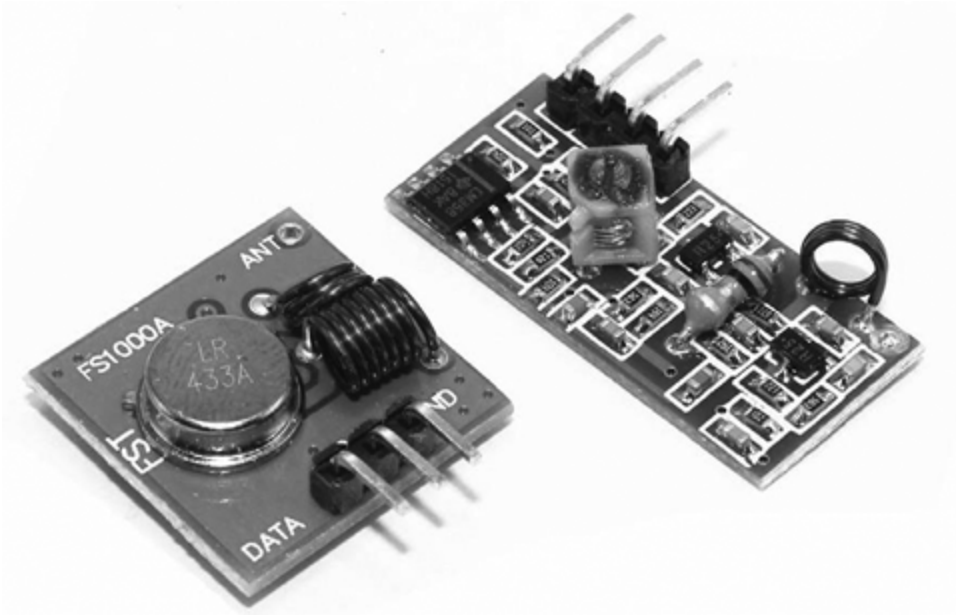

Figure 16-1: RF Link transmitter and receiver set
It's easy to send text information in one direction using a wireless link between two Arduino-controlled systems that have inexpensive radio frequency (RF) data modules, such as the transmitter and receiver modules shown in Figure 16-1. These modules are usually sold in pairs and are known as *RF Link* modules or kits. Good examples are part 44910433 from PMD Way or parts WRL-10534 and WRL-10532 from SparkFun. We'll use the most common module types that run on the 433 MHz radio frequency in our projects.